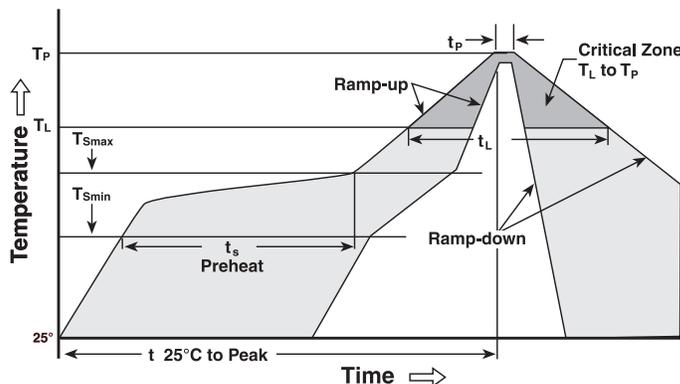
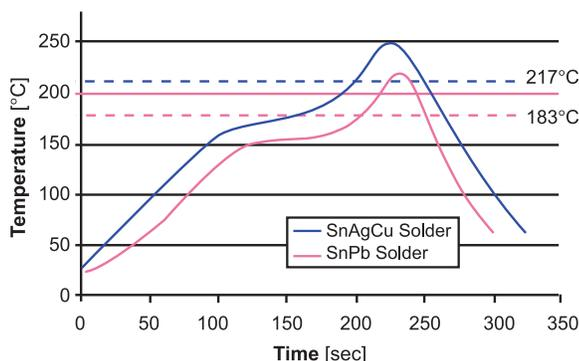
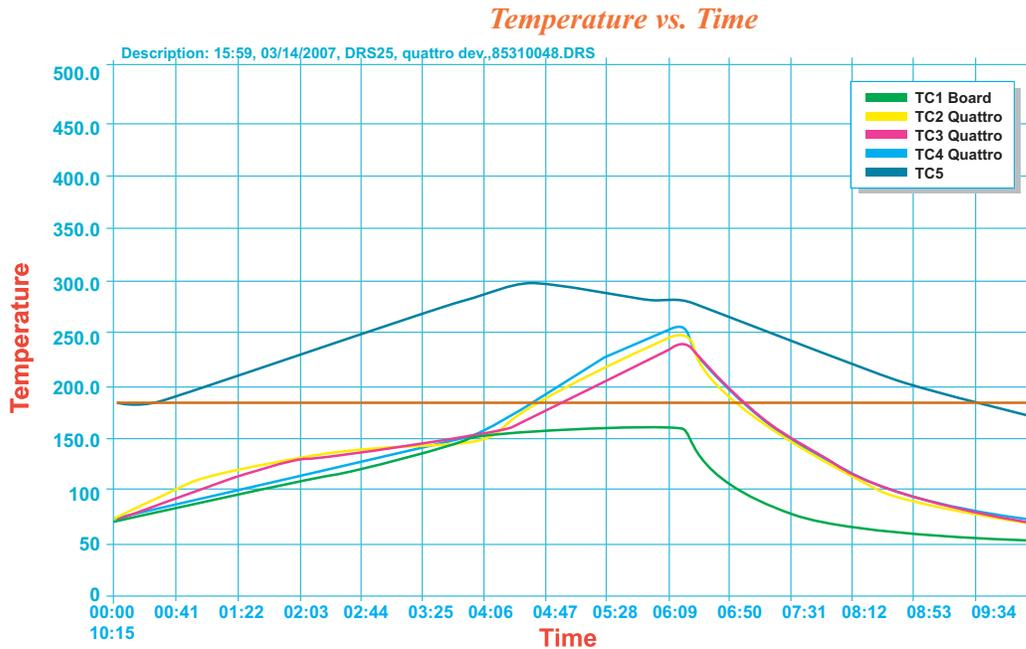
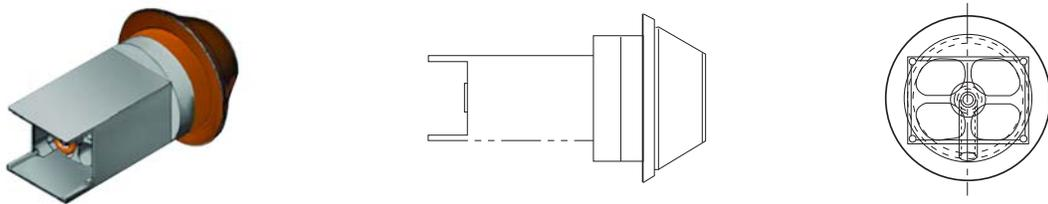

Figure 5. Typical reflow profile
Figure 6. Typical solder reflow profile
Figure 7. Quattro/Dos Lead-free, Thermal Plot (lead-free devices)
Figure 8. *Air-Vac N19.3EZ30.5G10-G: Quattro Nozzle*
For Pulse devices, the solders listed in Section 4.0 should be used. Table 1 and Figure 5 show a typical reflow profile and conditions for lead-free solders and tin-lead eutectic solders. However, it is strongly recommended that the solder paste manufacturer's guidelines be followed. The profile probe should be located on the PCB in the immediate vicinity of the device's perimeter pads. Figure 6 is an example of a Sn96.5Ag3Cu0.5 solder reflow profile and a Sn63Pb37 solder reflow profile.
* See Figure 5
The Air-Vac DRS25 “Semi-Automated SMT Rework & Repair” system and the ONYX29 “Robotic SMT Rework, Repair, and Low Volume Assembly,” with Air-Vac nozzle N19.3EZ30.5G10-G (Figure 7) are examples of systems that can be used for the Quattro rework process. This same system, along with Air-Vac nozzle N16.6EZ19.4G11-G (Figure 8) can be used for the Dos rework process. The general rework process for this equipment follows. Preheat the appropriate nozzle to 100°C. Ramp the nozzle heater up during the soak , ramp, and reflow stages. The thermal plot and summary analysis for the Quattro/Dos device is below (Figures 6 and Table 2).